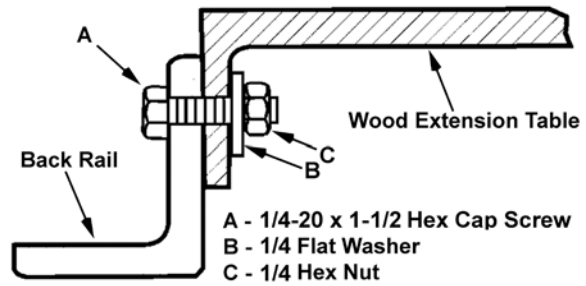

Figure 11
5. Install three 1/4-20 x 1-1/2 hex cap screws, three 1/4 flat washers, and three 1/4 nuts into the holes in the rear edge of extension table as shown in Figure 11. Finger-tighten only.